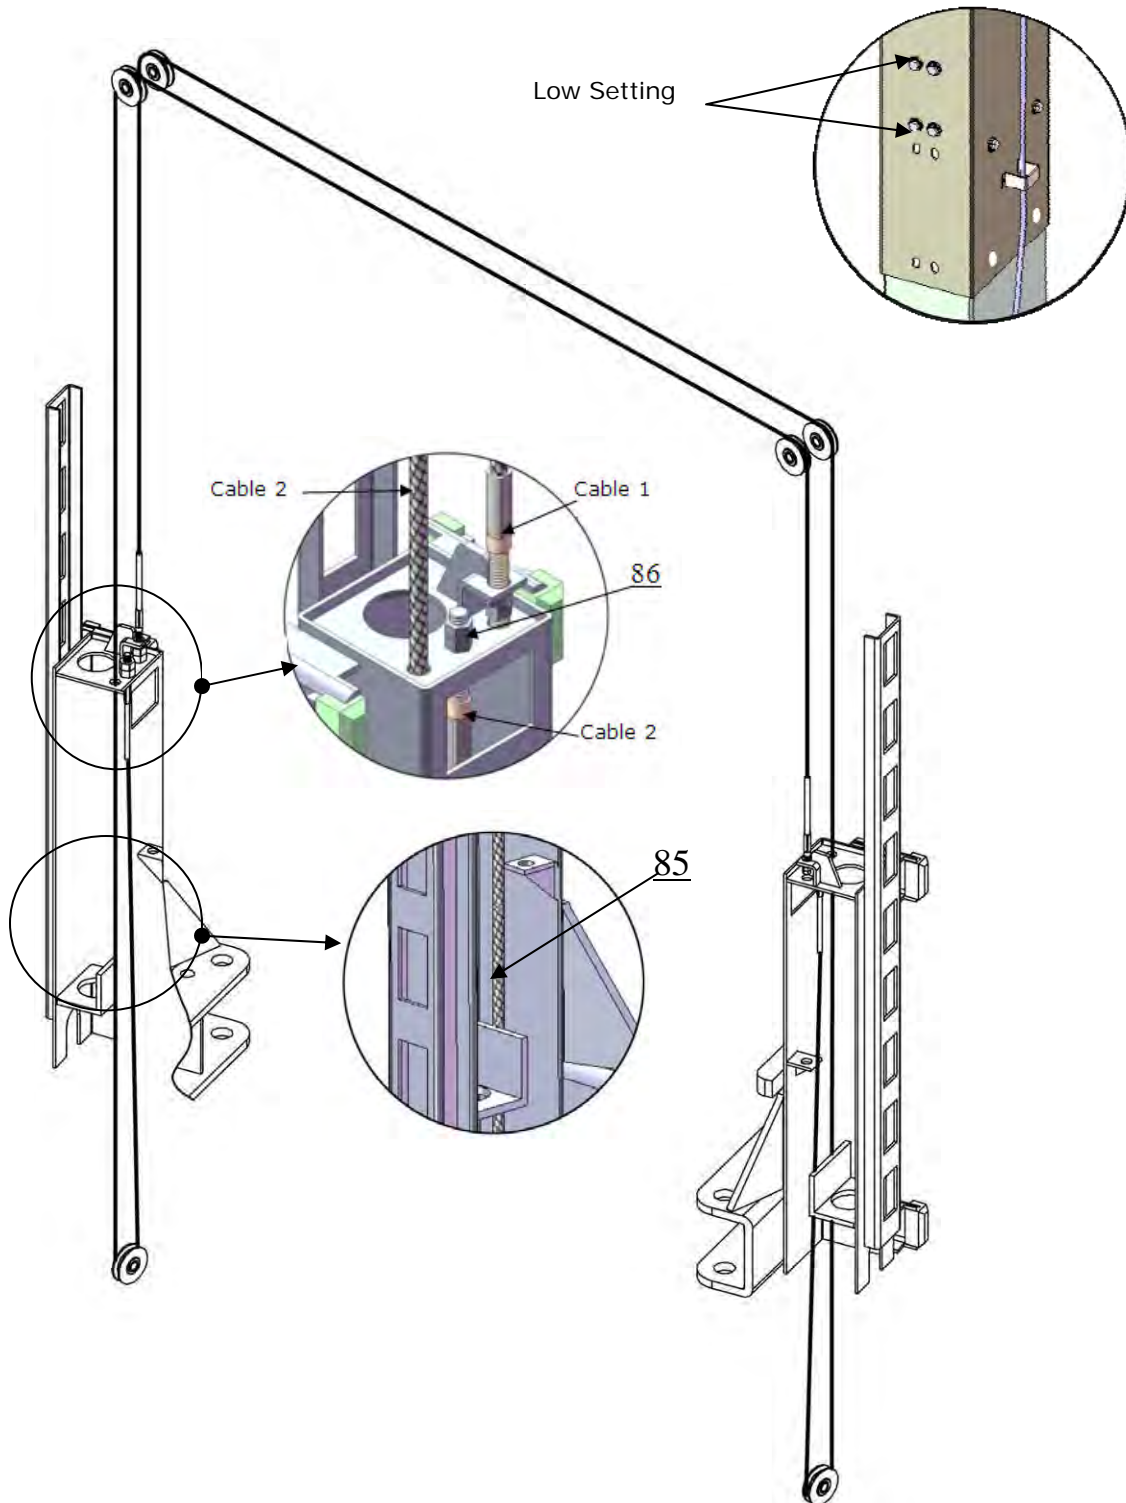

Fig. 23
a. For the low setting cable connection (See Fig. 23).